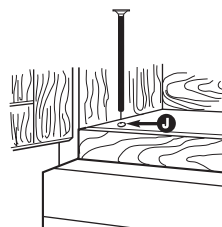

Figure 33
3. Then insert a bolt down through each hole in the upper cabinet bottom. See Figure 33. Tighten the bolts until the gap between the upper cabinet and microwave oven is closed.